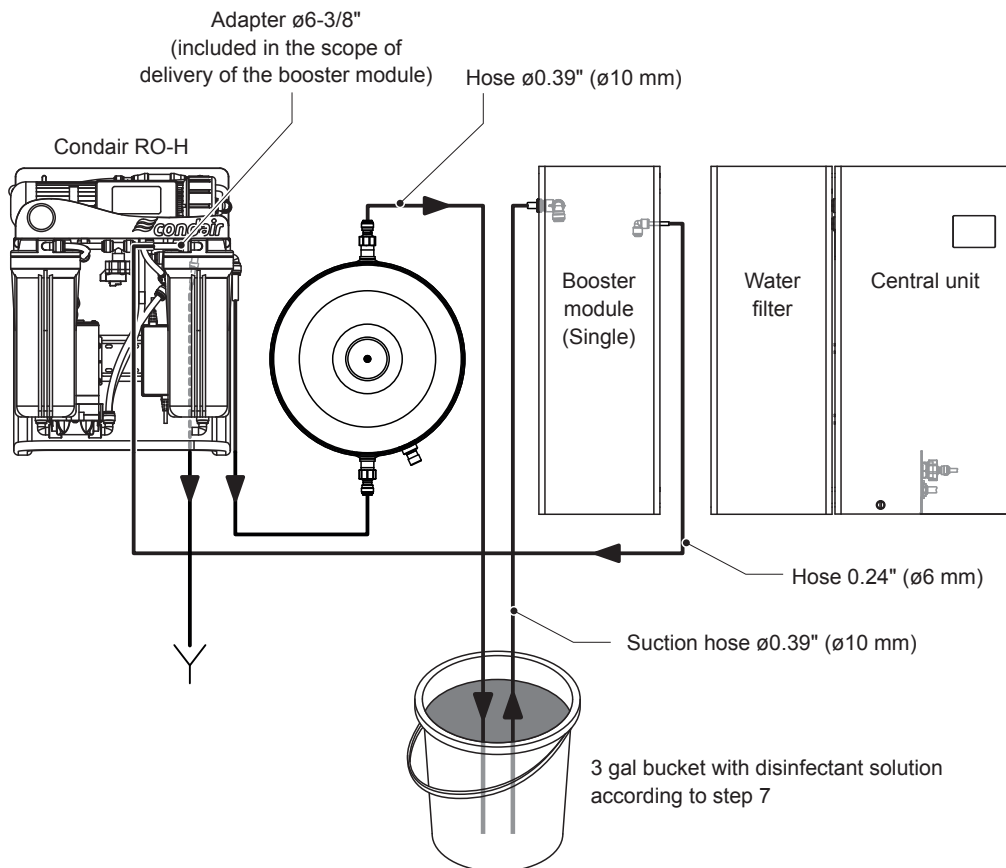

Fig. 59: Schematic diagram of the hose layout for disinfection of the Condair RO-HB for MN single systems
8. Create hose connections as shown in Fig. 59 or Fig. 60:
- When everything is connected according to Fig. 59 or Fig. 60, select the "Set state water valves" function under "Control > Commands ...", set the valves "Y1" and "Y2" to "Open" and confirm with **<Submit>**. The pump in the booster module starts up.